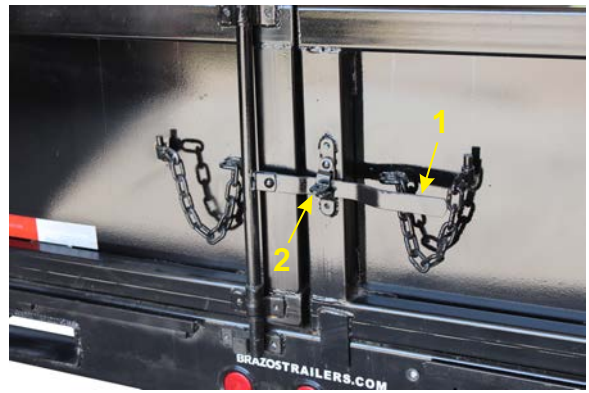

Figure 3-21 – Latch and Secure Rear Gates
- m. Before moving trailer make sure that the tailgate is closed and securely latched (1, Figure 3-21). Make sure that the lock lever has been secured in the latched position by the lock clip (2, Figure 3-21).